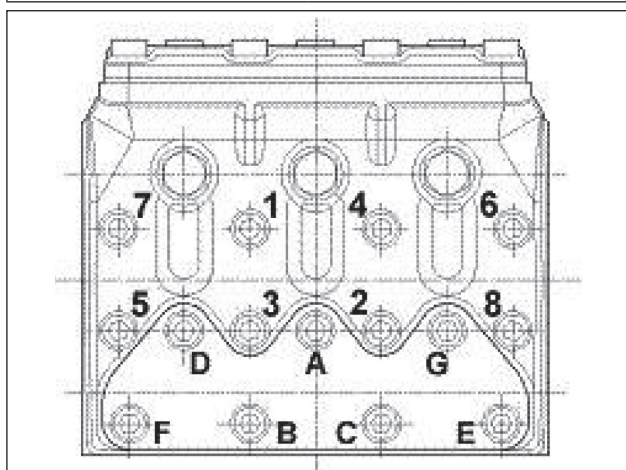

Fig. 24
* The con-rod cap fixing screws must be tightened respecting the phases indicated on page 15. ** The head fixing screws must be tightened with a torque wrench, lubricating the underhead, respecting the order in Fig. 24. *** The valve cover fixing screws must be tightened with a torque wrench, lubricating the underhead, respecting the order in Fig. 24. **** The PTO 2nd flange fixing screw must be tightened with a torque wrench, using Loctite 243 Blue.